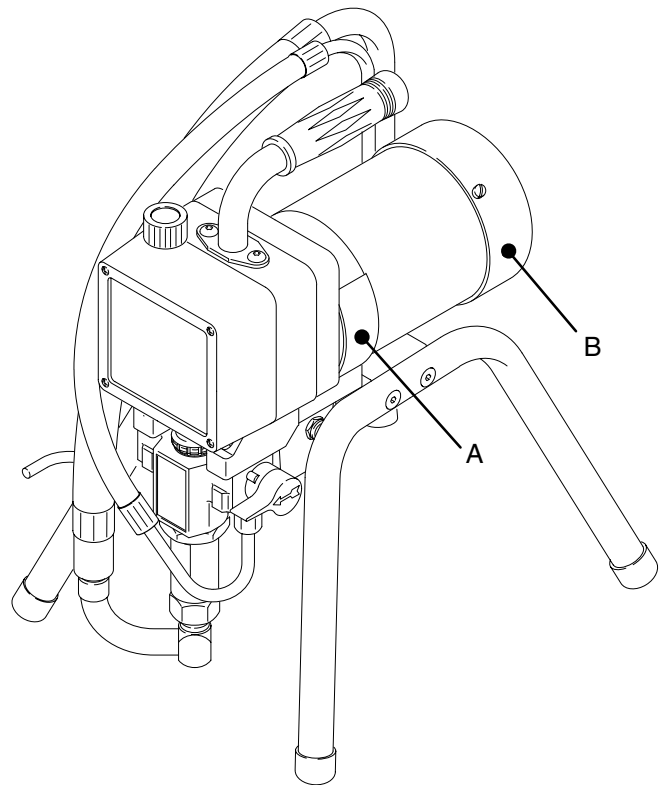

Fig. 11 Model 820-169 Shown
Remove the motor brush inspection covers (A). See Fig. 11.
Remove the fan cover (B). See Fig. 11.